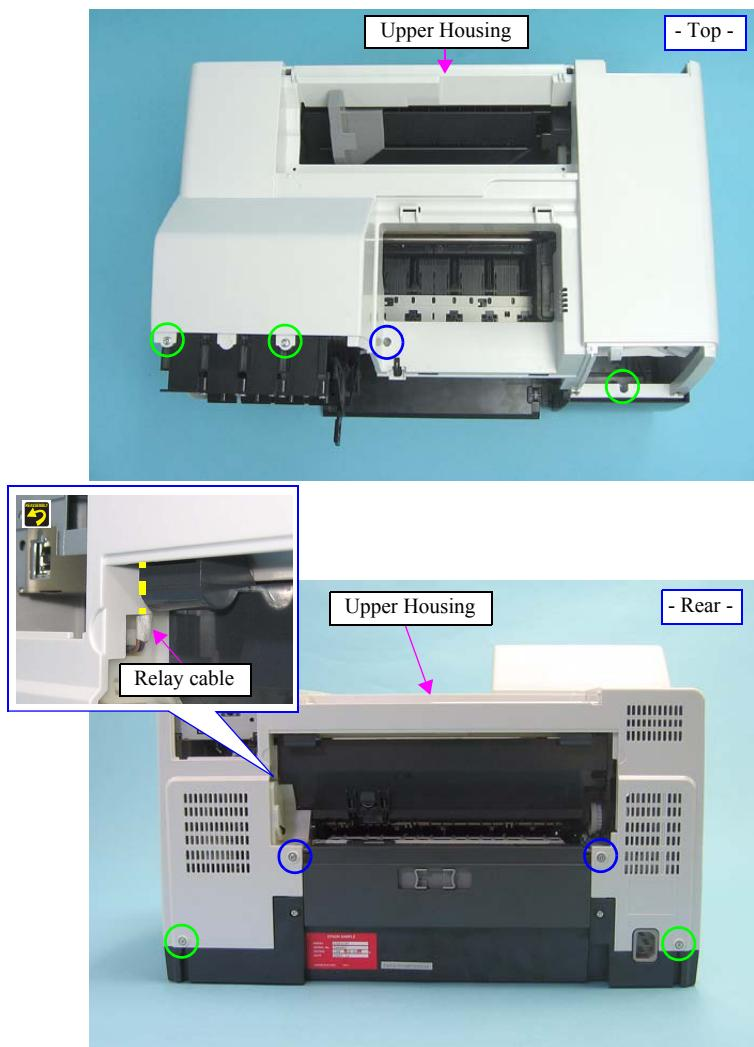

Figure 4-43. Removing the Upper Housing
- When installing the Upper Housing, route the relay cable within the yellow dotted line area of the Upper Housing as shown in Figure 4-43.